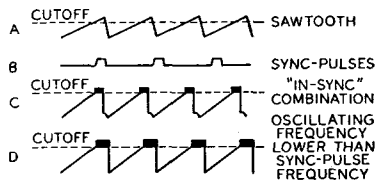

Fig. 67
across the capacitor  $C_2$ . A portion of this sawtooth is fed back to the grid of the control tube,  $V_1$ . The positive sync pulses are also applied to the grid of  $V_1$ . The waveforms shown in Fig. 67 illustrate the sawtooth and sync pulses (A and B) and their proper "in-sync" combination (C). The sync pulse occurs partly during the portion of the sawtooth voltage in which the triode  $V_1$  draws current. Any shift in sync pulse as it is superimposed on the sawtooth, therefore, will affect the amount of conduction of the control tube. A change in control-tube conduction ultimately affects the bias on the oscillator-tube grid by changing the voltage to which the capacitor  $C_1$  in the cathode circuit may charge. An increase in the positive bias increases the frequency of oscillation.
For example, waveform D in Fig. 67 illustrates a condition in which the sawtooth voltage is advanced in phase with respect to the sync-pulses. The